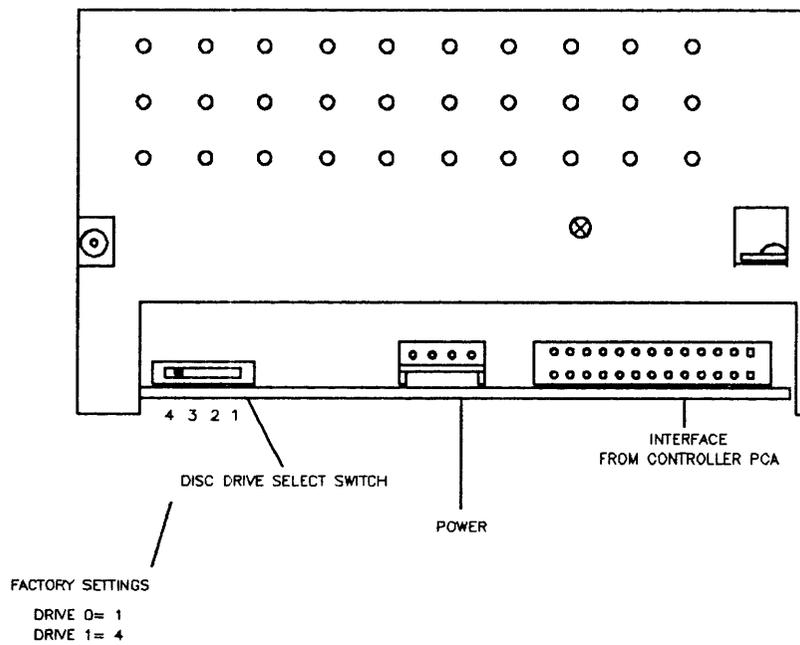

Figure 4-4. Disc Drive Select Switch (09114-69511).
1. Using Figure 4-4 or 4-5 as a reference, take the disc drive select switch of PHYSICAL drive 0 and set it to position 1.
Return the drive select switch of each drive to its original position (refer to Figure 4-4 or 4-5 for original positions).
- To assemble, reverse the above process. Ensure that the drive select switch is set to the proper position. Refer to Figure 4-4, Chapter 4 of this Manual, for location and proper setting of the switch.